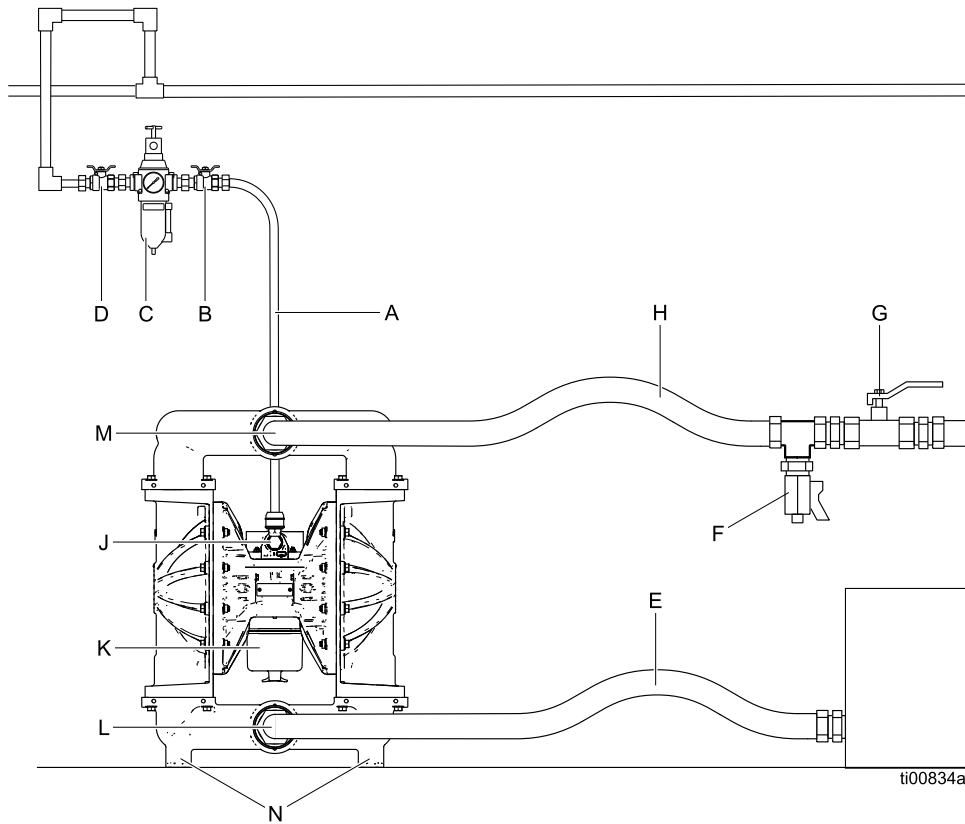

Figure 1 Typical Installation
Fig. 1, Typical Installation, shows only a guide for selecting and installing system components. Contact your Graco distributor for assistance in planning a system to suit your needs. Always use Genuine Graco Parts and accessories. Be sure all accessories are adequately sized and pressure rated to meet the system's requirements.
1. Install an air filter/regulator assembly (C). The regulator controls the fluid pressure. The fluid stall pressure will be the same as the setting of the air regulator. The filter removes harmful dirt and moisture from the compressed air supply.
2. Locate a bleed-type master air valve (B) close to the pump and use it to relieve trapped air. Be sure the valve is easily accessible from the pump and located downstream from the regulator.
<p>Trapped air can cause the equipment to cycle unexpectedly, which could result in serious injury from splashing fluid. To help prevent serious injury, install a bleed-type master air valve (B). See Fig. 1, <a href="#">Typical Installation</a>.</p>
3. Locate another master air valve (D) upstream from all air line accessories and use it to isolate them during cleaning and repair.
4. Install a conductive, flexible air hose (A) between the accessories and the 3/4 npt(f) pump air inlet.
<p>This equipment stays pressurized until pressure is manually relieved. To help prevent serious injury when relieving pressure, such as splashing fluid, install a fluid drain valve (F). See Fig. 1, <a href="#">Typical Installation</a>.</p>
1. Use conductive, flexible fluid hoses (E). See Ground The System, page 12.
3. If needed, install a fluid pressure relief valve (V). See Fluid Pressure Relief Valve, page 15.